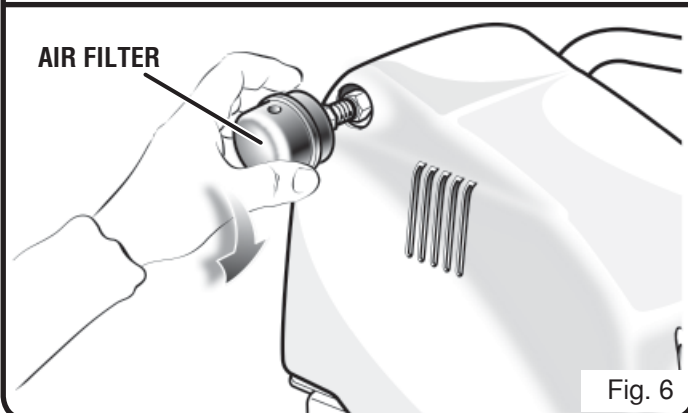

Fig. 6
- Screw the air filter securely to the equipment, by turning it clockwise (Fig. 6).